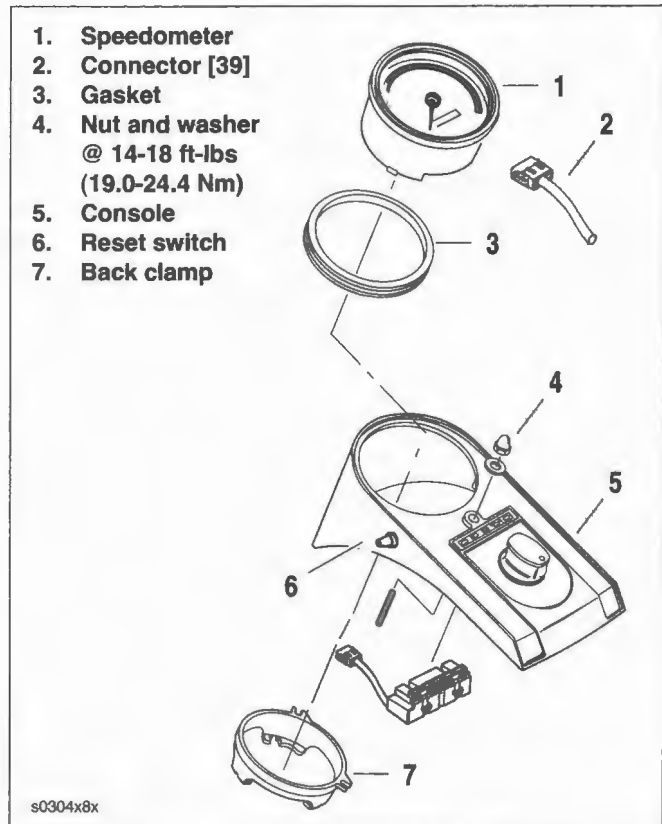
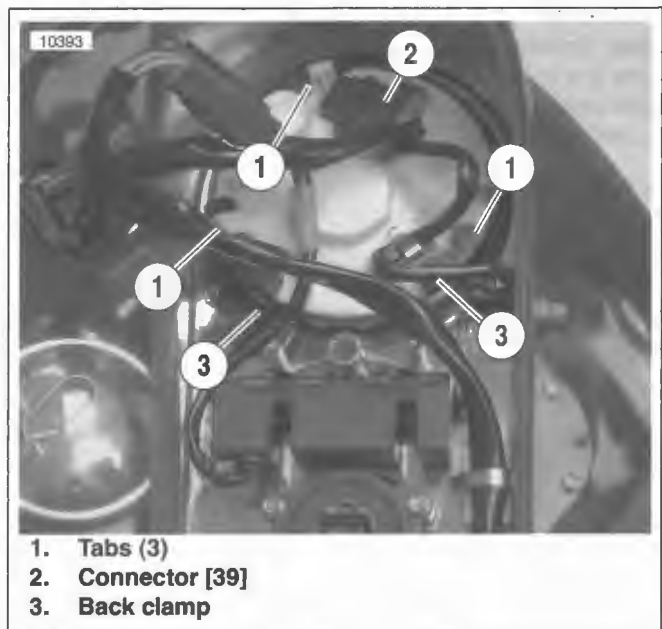

Figure 8-75. Speedometer: All But FXSTD
Figure 8-76. Connector [39]
1. See Figure 8-75. Remove nut and washer (4) and lift console (5) from fuel tank.
3. Depress connector tab and disconnect 12-place harness connector (2) [39] from speedometer under console.
4. Unscrew the rubber boot from the odometer reset switch (6) on the left side of the console.
6. See Figure 8-76. Pry between three tabs and speedometer with a screwdriver to raise and release back clamp from speedometer. Remove back clamp from speedometer.
7. See Figure 8-75. Remove speedometer from console.
8. Remove gasket (3) from speedometer.
1. See Figure 8-75. Install gasket (3) to speedometer.
2. Position speedometer in console (5).
3. See Figure 8-76. Press on back clamp (3) until three tabs engage on back of speedometer.
4. See Figure 8-75. Insert odometer reset switch (6) through hole in console and install rubber boot.
5. Connect 12-place connector (2) [39] to speedometer under console.
6. Remove shop rags. Attach console to fuel tank with nut and washer (4). Tighten to 14-18 ft lbs (19.0-24.4 Nm).